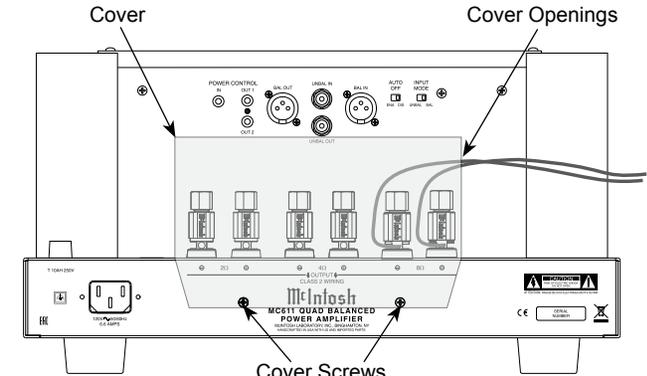

Figure 6 (Outside USA and Canada)
11. Locate the Terminal Connections Cover from the inside of the MC611 shipping carton. Insert the just prepared Loudspeaker hookup cables thru the cover opening on the right side. Refer to figure 6.
Note: The illustration in figure 6 is connections for 8Ω (ohms) Loudspeakers.
13. Attach the Terminal Connections Cover to the MC611 Rear Panel with the previously removed Screws. Refer to figure 6.